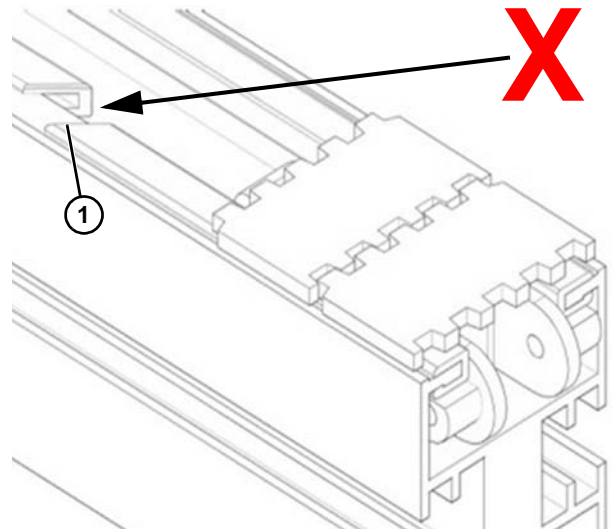

Figure 117
- Check that the gap (**Figure 117, item 1**) between the slide rails and that the joints fit correctly.